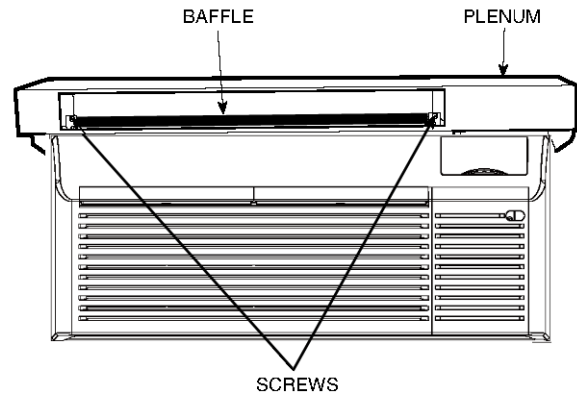

Fig. 13 —Baffle Attachment Screw Locations
2. Remove 2 screws holding baffle. See Fig. 13.